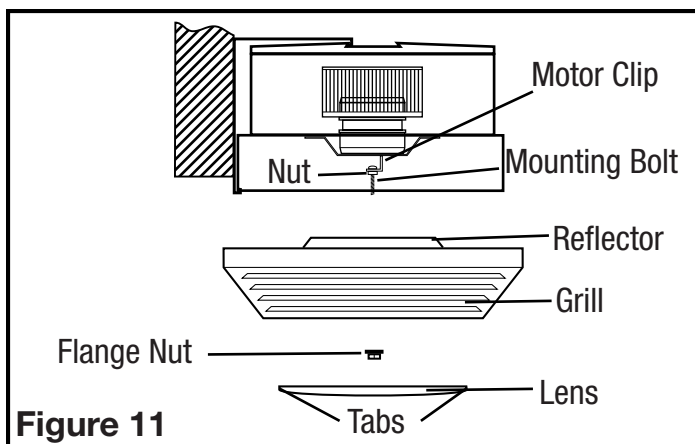

Figure 11
3. Install the grill/lens/light reflector, by first removing the lens from the grill (there are two tabs on either side that hold the lens in place). Then remove the acorn nut and the lock washer which are installed on the reflector mounting bolt in the fan housing. Adjust the height of the reflector mounting bolt so that the grill will be tight up against the finished ceiling and less than 1/4" of the reflector mounting bolt protrudes through the reflector. Secure the reflector bolt's position by tightening the factory installed nut against the motor clip (Figure 11).